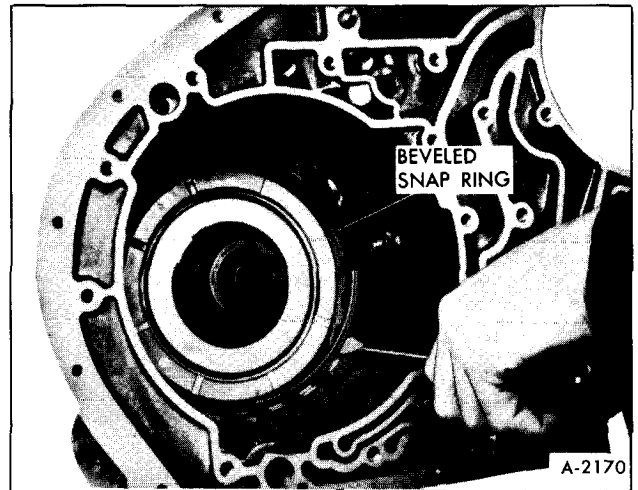

Figure 53-Center Support Snap Ring
4. Using a needle-nose pliers, or screwdriver, remove center support to case snap ring, Figure 53.